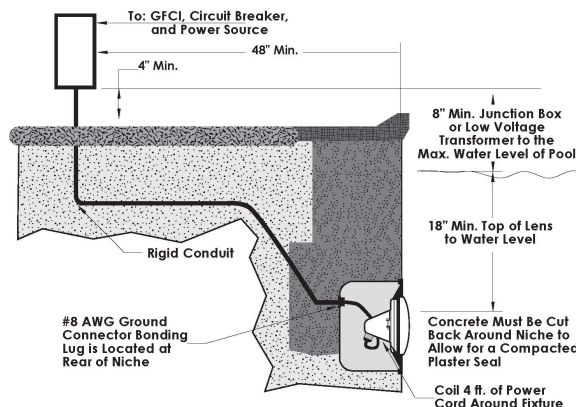

Figure 1.
- A junction box or low voltage transformer is located at least 8 inches above the maximum pool water level and at least 48 inches from the pool edge; reference Figure 1.
- Proper wet niche installation with the top edge of the underwater light's lens at least 18 inches below the surface of the water in the pool and not more than 20" in Canada; reference Figure 1.
- Proper electrical wet niche bonding and grounding using the #8 AWG ground connector at the rear of the niche; reference Figure 1.
1. Feed the fixture cord through the conduit to the junction box. Be sure to leave at least four (4) feet of cord at base of the fixture to coil around the light to ensure ease of servicing once the pool and/or spa is filled; reference Figure 1.
2. At the junction box, cut the cord. Be sure to leave at least six (6) inches of cord for making connections.
3. Carefully strip the outer cord jacket to expose six (6) inches of the underlying three insulated wires.
4. Connect these three (3) wires to their corresponding junction box circuit wires and secure the junction box cover in place.
5. Using the stainless steel pilot screw provided, install the Purewhite® Incandescent light fixture assembly into the niche, carefully tighten the pilot screw. (Reference Figure 1)